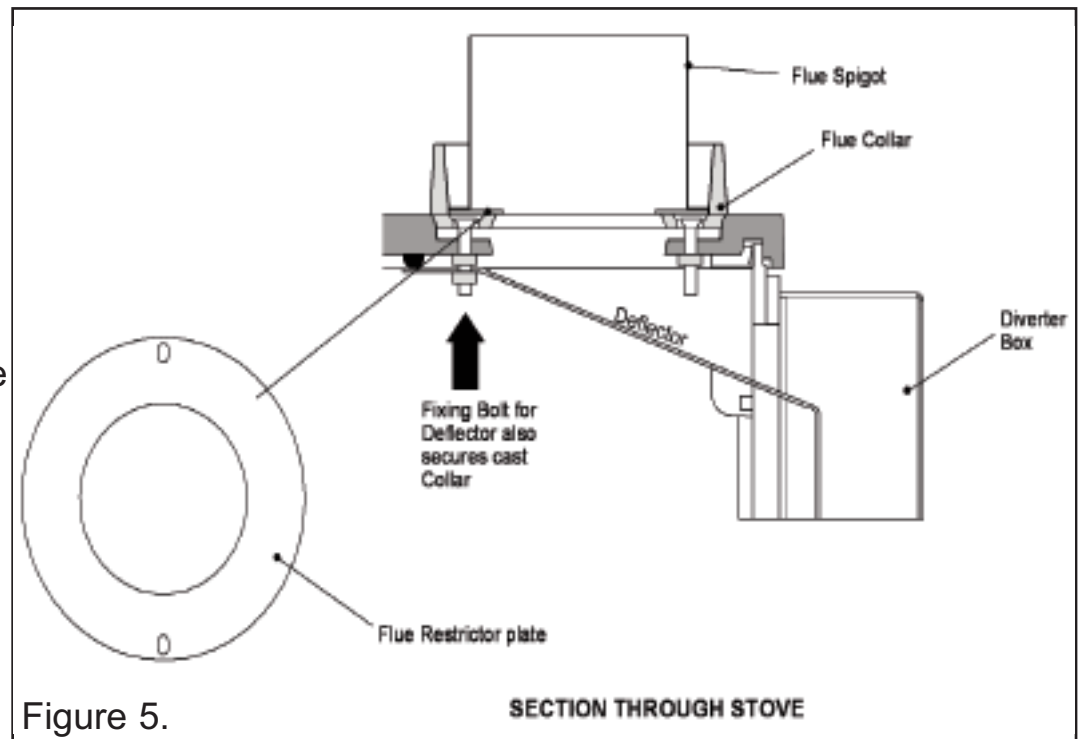
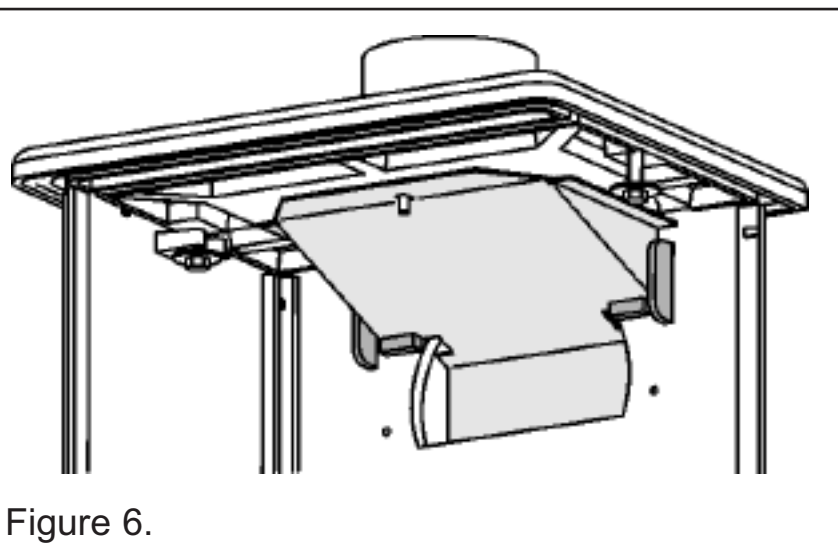

Figure 5.
Figure 6.
2. The deflector, diverter box and flue restrictor plate should be assembled to the stove as in figure 5. The deflector must be fitted first and is secured in place using the front bolt that secures the flue collar. Unscrew and remove the nut and washer from the front bolt and position the
deflector as in figure 6, securing it using the nut and washer. It **MUST** be sealed against the top of the stove casting. It is important that it sits on top and between the raised cast areas on the rear of the stove body (See figure 6). The flue spigot is screwed to the cast collar and clamps the flue restrictor plate in place (See figure 5).